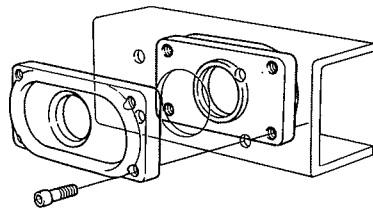

Figure 2
Fit the beam plates onto the drawbeam. The beam plate with threaded holes (8) should be placed inside the drawbeam. Torque up the bolts (dry) to 190 Nm (140 lbf.ft.). See figure 2.